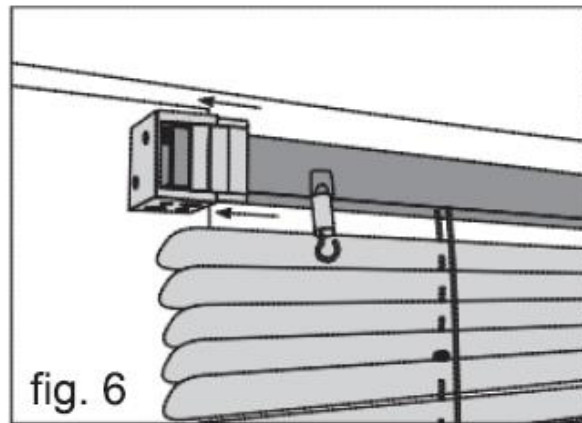

fig. 6
4. Slide the Bracket Face Plate (E) into the Bracket (C). See figure 6.